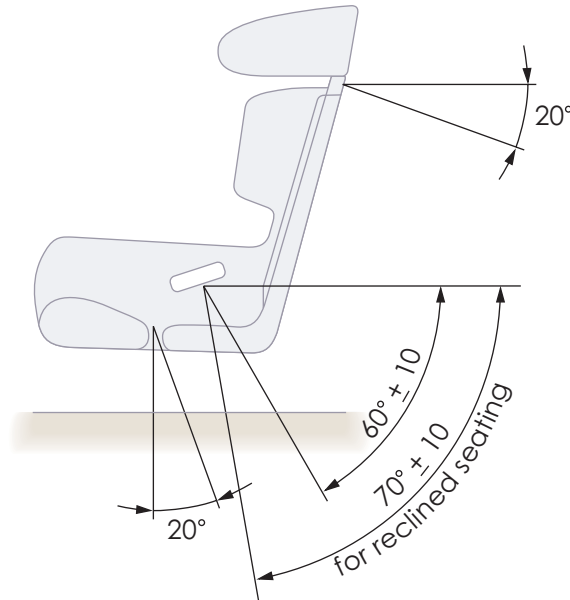

Figure 4. Side view to show recommended belt angles
2.4 The rear section of the shoulder strap should slope downwards from the uppermost point of contact with the HANS®-belt-bearing-surface to the anchorage point on the car, preferably at about 20° below the horizontal, angles between 0° and 20° being acceptable as shown in Figure 4.